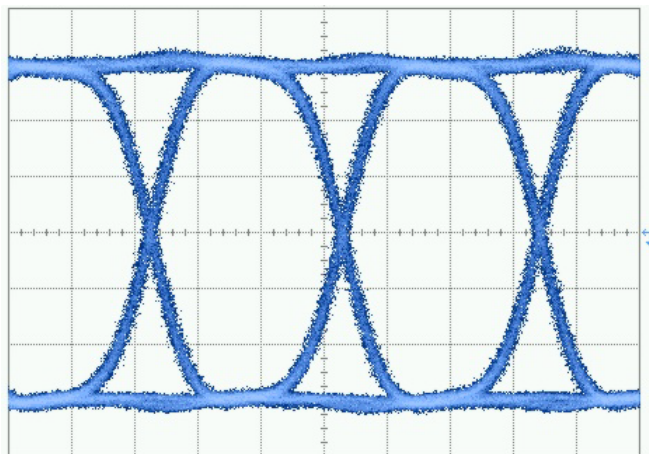

Figure 41. “Clean” eye pattern example
10. Use the rotary knob to set **Enable** to **ON**. A “clean” eye pattern should now be displayed on the high speed sampling scope similar to the one shown in **Figure 41**.